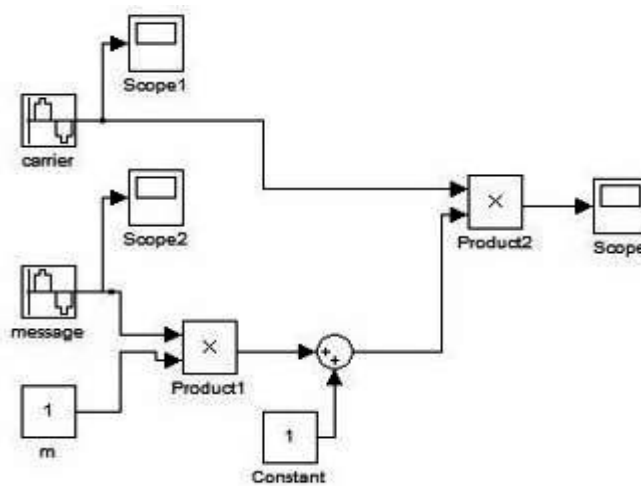

Figure 5.3: AM Generation using MATLAB -Simulink
a) AM Generation using MATLAB -simulink (Fig 5.3)